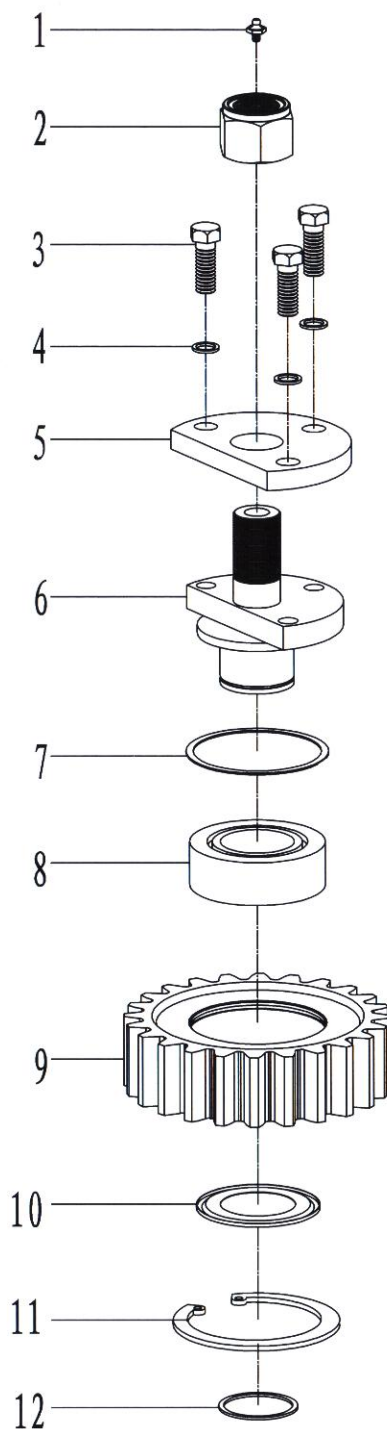
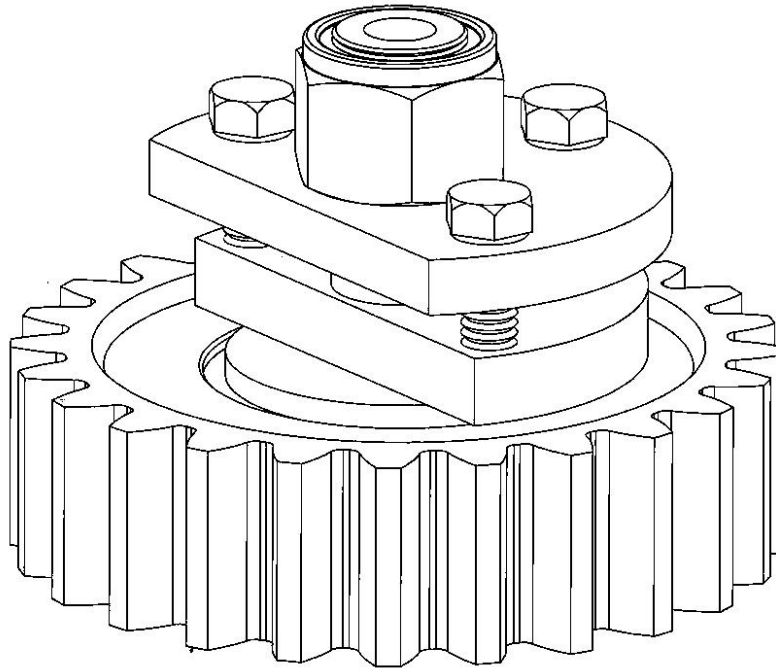

Fig. 8
Fig. 9
7.1.4 Big idler gear assembly(Fig.8, Fig.9, Table.6)